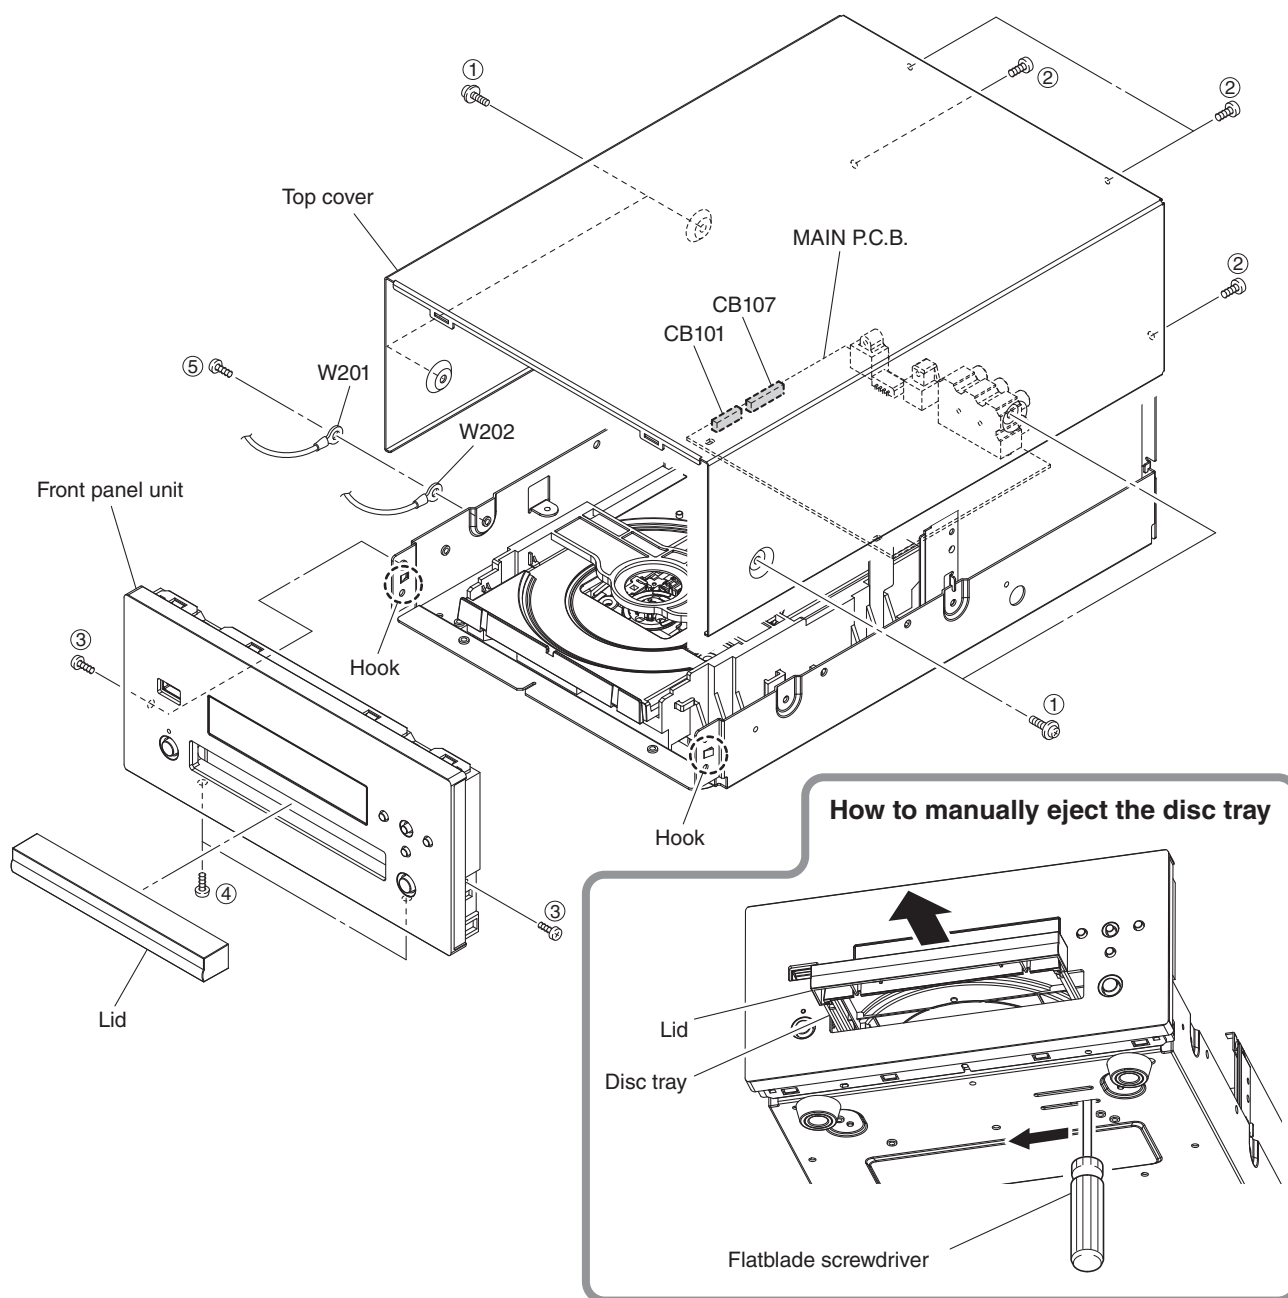

Fig. 1
- b. Slide the top cover rearward to remove it. (Fig. 1)
- a. Using a flatblade screwdriver, move the slider at the bottom in the direction of the arrow shown below. (Fig. 1)
Open the disc tray, remove the lid and close the disc tray. (Fig. 1)
- b. Remove 2 screws (③) and 2 screws (④). (Fig. 1)
- c. Remove screw (⑤) and remove W201–202. (Fig. 1)
- d. Remove CB101 and CB107. (Fig. 1)
- e. Release 2 hooks and remove the front panel unit. (Fig. 1)